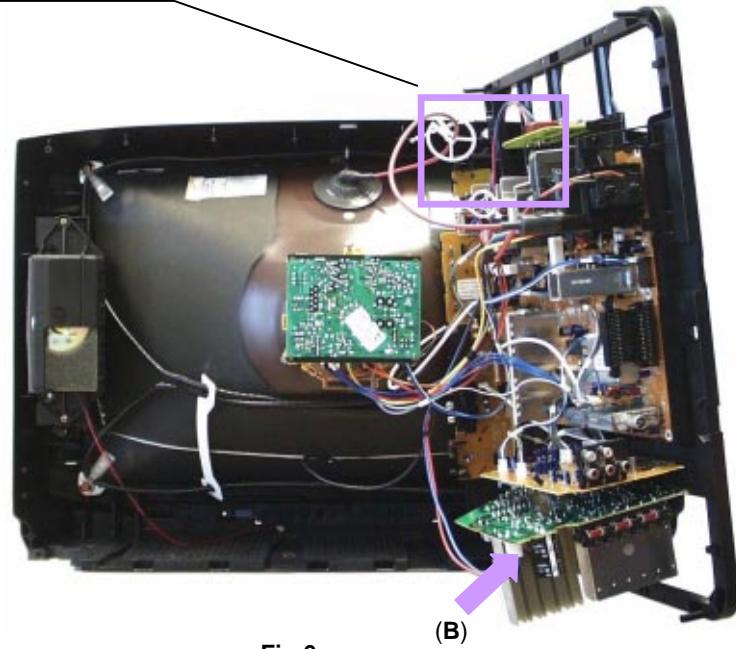

Fig.6.
4. Locate the base of the chassis frame into the hole (B), shown in **Fig.6**.